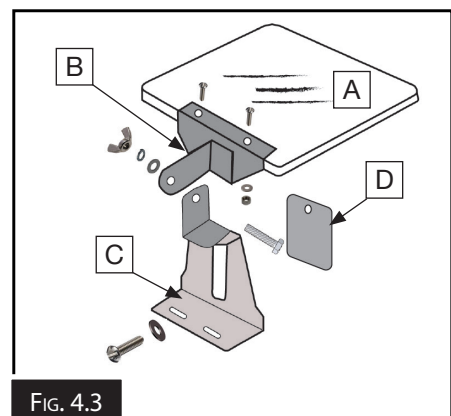

FIG. 4.3
3. Assemble the left spark deflector (D) and eye shield bracket (C) using Fig. 4.3 as a guide. Make sure spark deflector and bracket are marked L.